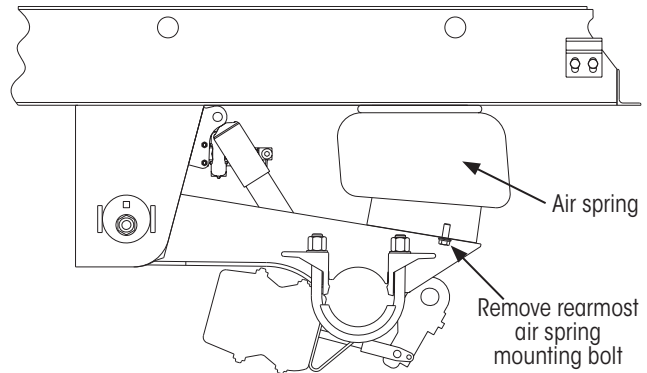

Figure 69: Preparing for rear beam extension installation
2. Remove and discard the rearmost air spring mounting bolt (Figure 69) from both rear suspension beams.